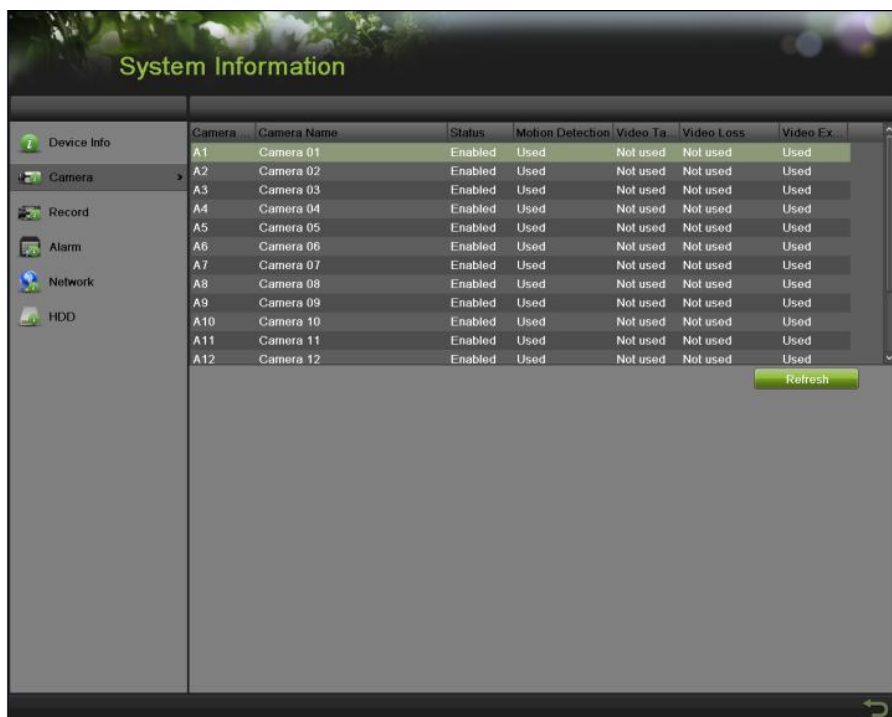

Figure 16 Camera Information Menu
2. Select the Camera tab to enter the Camera Information menu to view the status of each camera, as shown in Figure 16. You can click the refresh button to renew the information displayed.